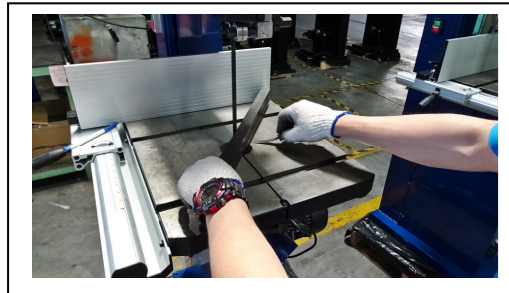

Figure 18
3. When adjusting the table, the table edge can higher than the middle position about 0.4mm which is acceptable. (Figure 18& Figure 19) Edge can not lower than the middle part of the table.